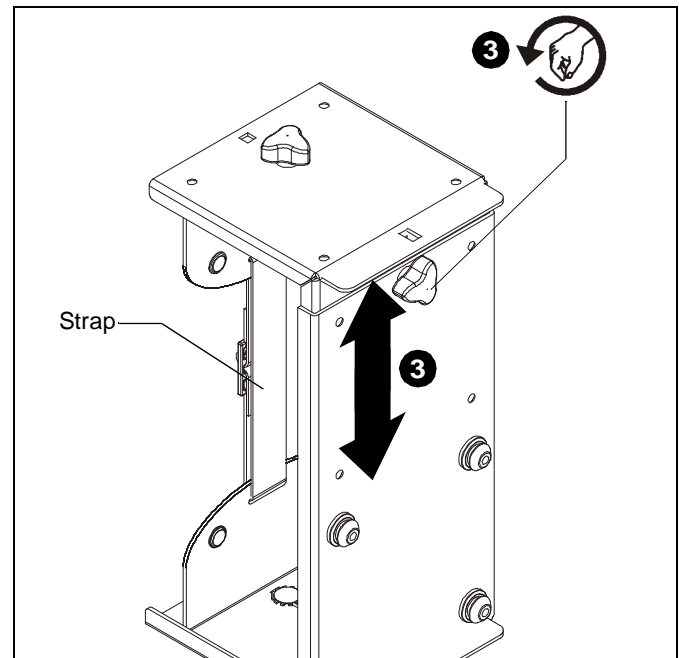

Figure 3
4. Loosen adjustment knob at the back of the mounting unit and adjust height of mount to a height greater than the height of the CPU to be installed. Loosen strap at the front of the mount if necessary. (See Figure 3)